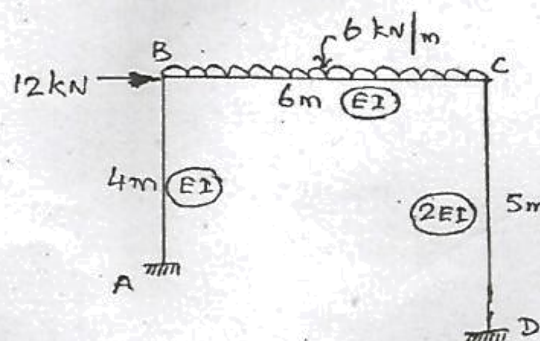

Fig Q. 14 (b)
- (b) Analyze the portal frame shown in Fig.Q.14 (b) by slope deflection method and draw the bending moment diagram.